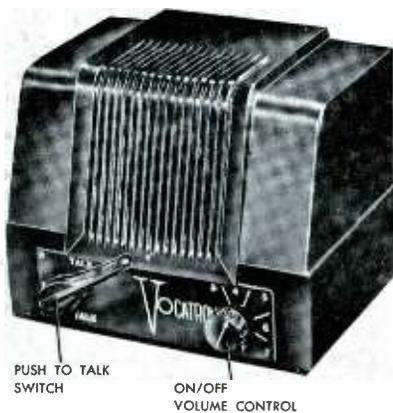

Fig. 10. Cabinet View of Vocatron Intercom Model CC-45.
The Vocatron Intercom Models CC-20(D) and CC-45 loudspeaking intercommunication systems employ the carrier-current system which thereby eliminates the need for connecting the units together with separate lines. The Vocatron CC-45 is shown in Fig. 10. The carrier-current system of transmission uses the power lines as its transmission medium. It is a low-cost system which is efficient. The Vocatron has incorporated in its circuit a special patented silencing